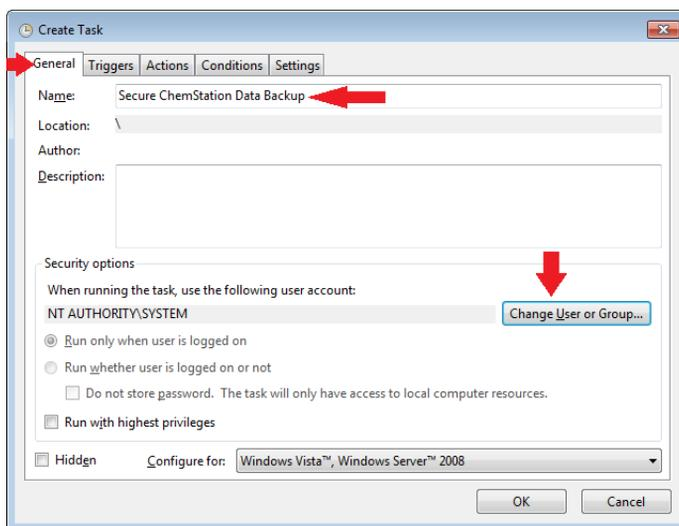
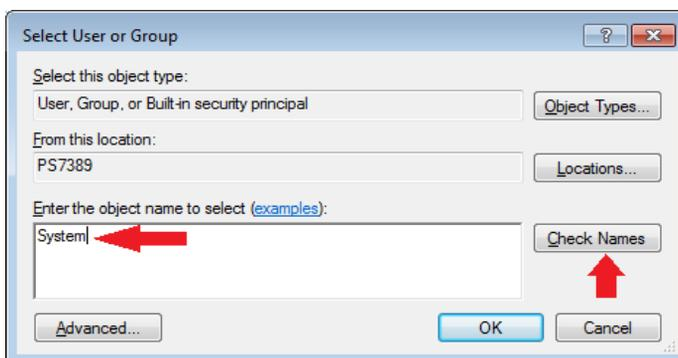

Figure 10 Change Users or Group
Figure 11 Select User or Group
- To execute the data backup irrespective of the current logged-in user, use **Change User or Group** (Figure 10) to set the task running account to **System** (Figure 11).